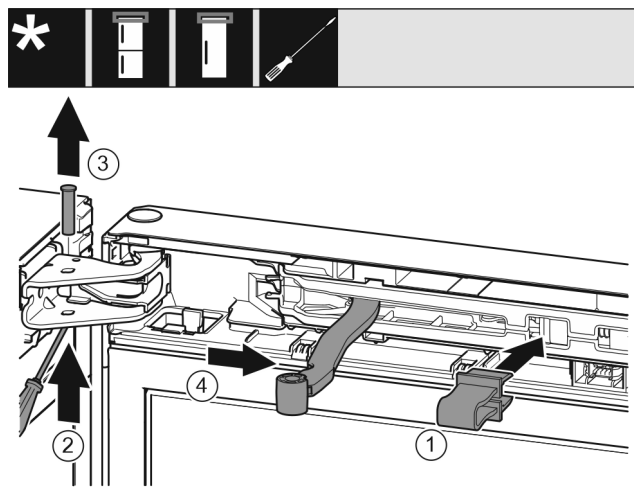

Fig. 10
- Snap the locking device Fig. 10 (1) into the opening.
- Pull out the pin Fig. 10 (2).
- Pull out the pin Fig. 10 (3) upward.
- Turn the joint Fig. 10 (4) towards the door.